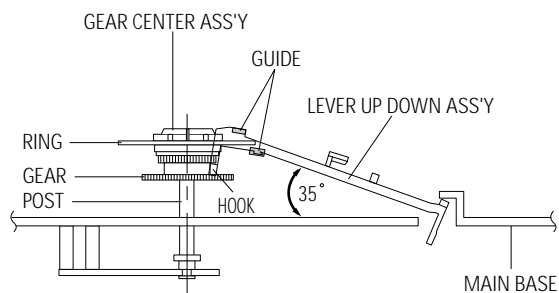

Fig. 5-30 Lever Up Down Ass'y Removal
- 1) Insert the Lever Up Down Ass'y ❶ in the rectangular holes on Main Base as shown in Fig 5-30.
- 2) Lift the Lever Up Down Ass'y ❶ about 35°.
- 3) Insert Ring of the Gear Center Ass'y ❷ in the Guide of the Lever Up Down Ass'y ❶.
- 4) Insert the Gear Center Ass'y ❷ in the post on Main Base.
- 5) Push down the Lever Up Down Ass'y ❶ for locking of the Hook.